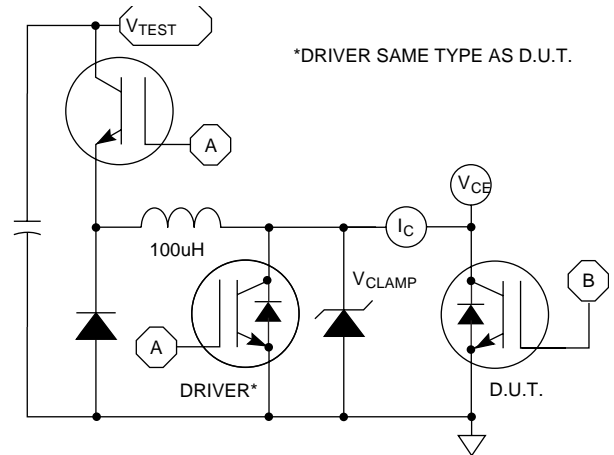

Figure 24. E_{ON1} Test Circuit
① Repetitive Rating: Pulse width limited by maximum junction temperature.
② For Combi devices, I_{ces} includes both IGBT and FRED leakages
③ See MIL-STD-750 Method 3471.
④ E_{on1} is the clamped inductive turn-on-energy of the IGBT only, without the effect of a commutating diode reverse recovery current adding to the IGBT turn-on loss. (See Figure 24.)